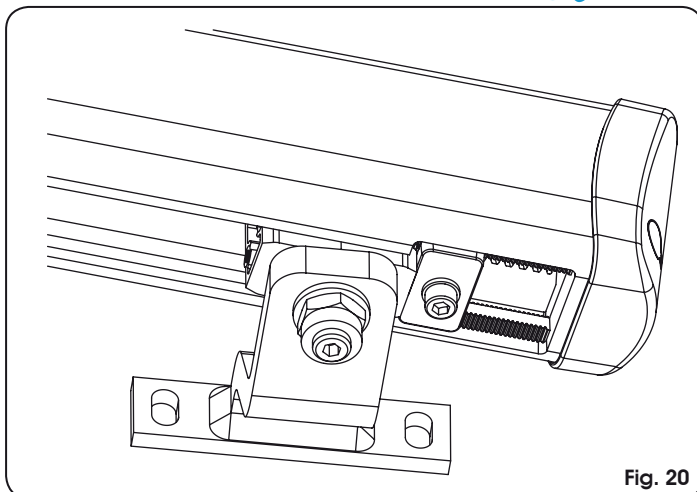

Fig. 20
4. Move the stop near the fitting as shown in Fig. 20.